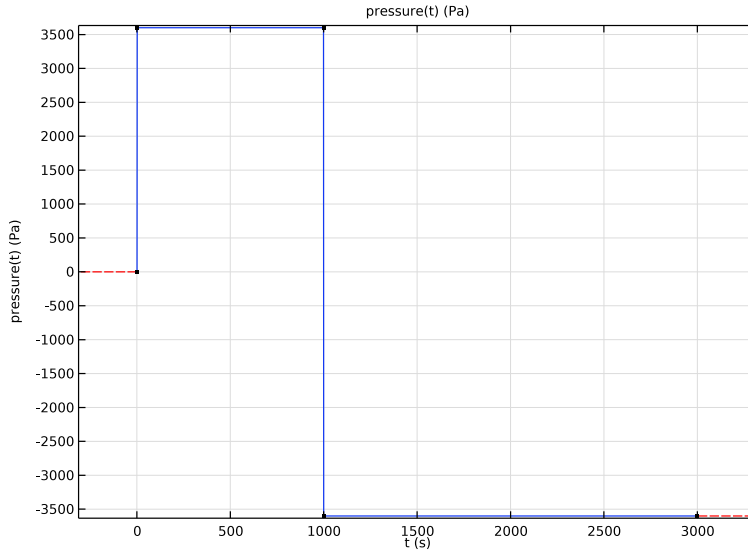

Figure 1: Internal pressure versus time. The red line is the default extrapolation of the pressure outside the defined domain.
- The internal pressure is ramped up from 0 to 3600 Pa during 1 s at $t = 1$ s and change sign within 1 s at $t = 999$ s as illustrated in Figure 1.